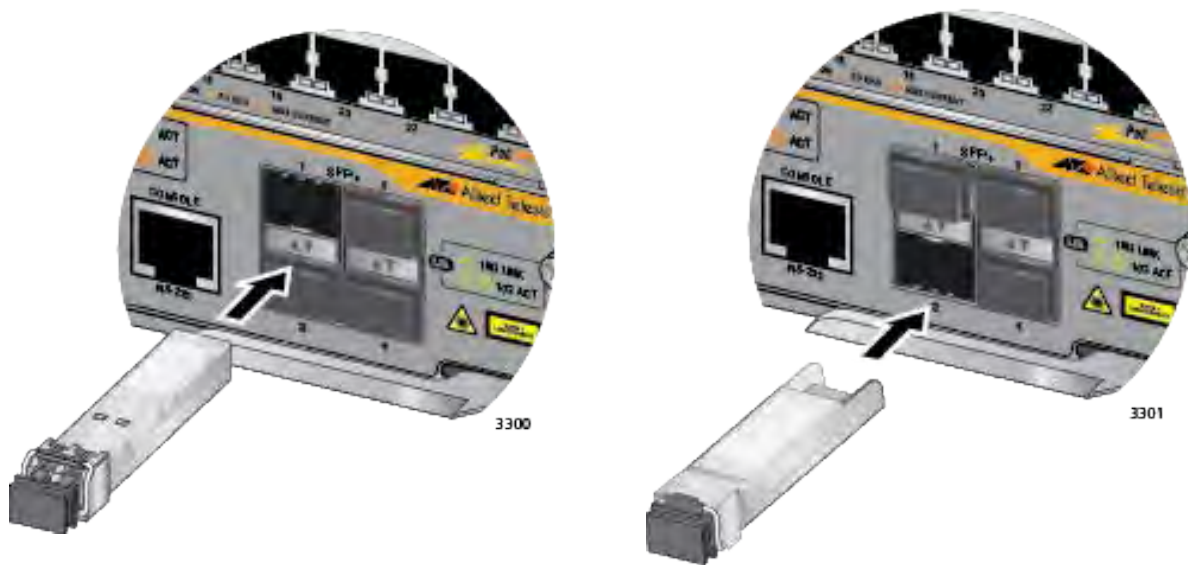

Figure 114. Installing an SFP+ Transceiver in the AT-SBx81CFC960 Controller Fabric Card
3. Slide the transceiver into the slot until it clicks into place, as shown in Figure 114 on page 192.